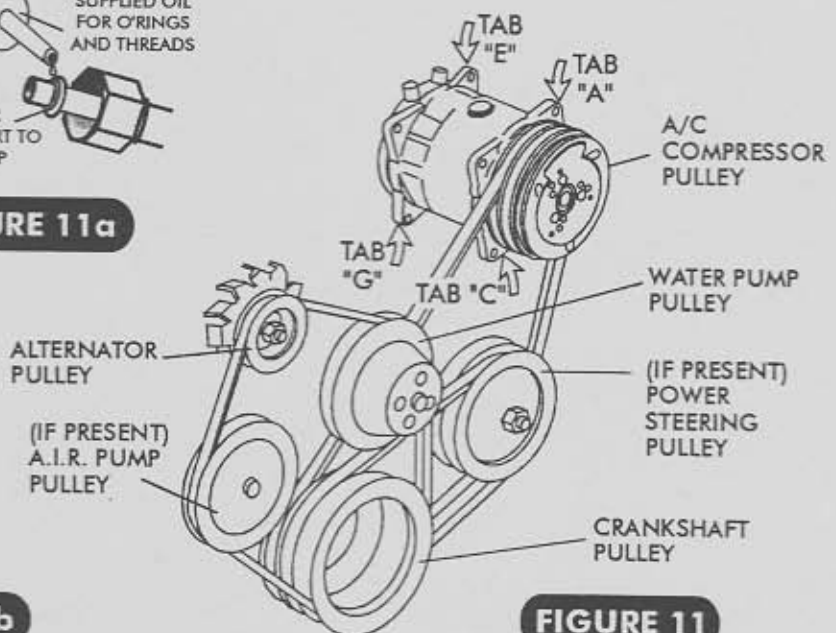

FIGURE 11
- ❑ REFER TO SEPARATE INSTRUCTIONS INCLUDED WITH THE BRACKET KIT TO INSTALL THE COMPRESSOR BRACKET. REFER TO FIGURE 11 FOR COMPRESSOR MOUNTING POSITION.
- ❑ IN MOST INSTANCES THE BELT LENGTHS WILL REMAIN THE SAME. SEE FIGURE 11.